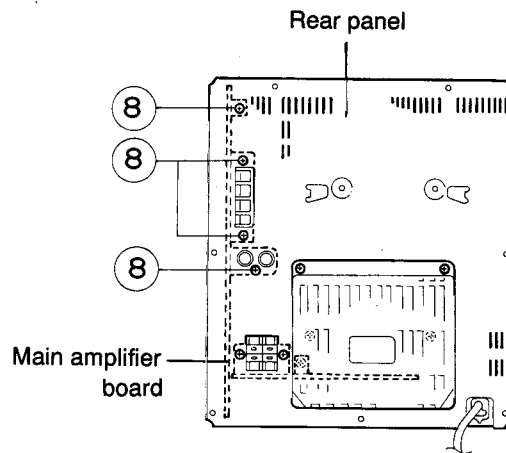

Fig.5-15
5. Remove the four screws ⑧ fastening the main amplifier board to the rear panel. (See Fig. 5-15)